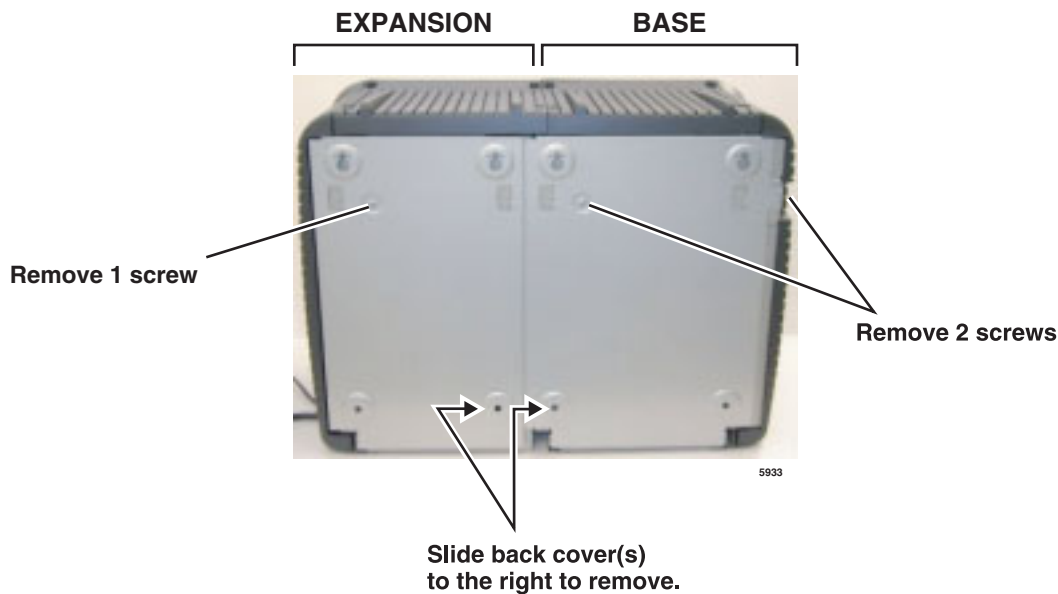

Figure 2-4 Base and Expansion Cabinet Back Covers
2. Remove the Expansion Cabinet back cover from the Expansion Cabinet (see Figure 2-4).